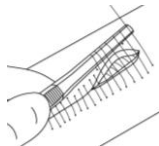

Figure 6
- h. Avoid pulling the suture tight for the last 3 cm of the incision (see Figure 6). It can be difficult to remove the SutureTOOL if the sutures are too tight.